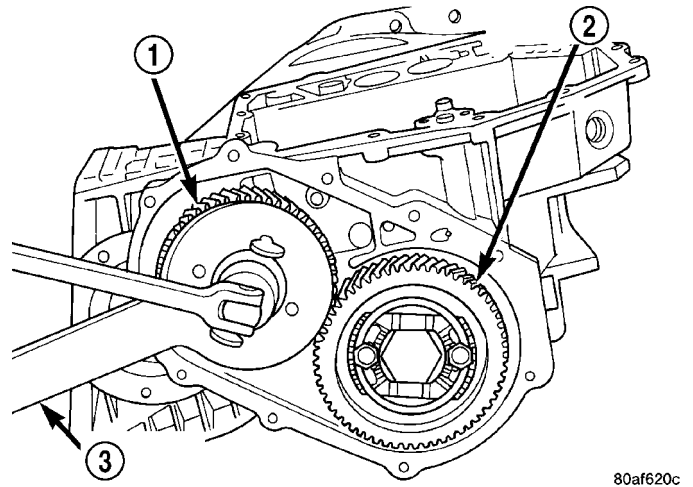
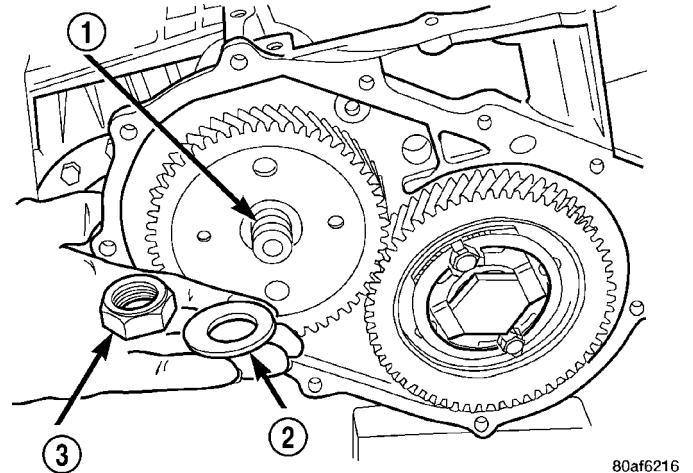

Fig. 52 Remove Transfer Shaft Gear Nut
Fig. 53 Transfer Shaft Gear Nut and Coned Washer
(37) Using Tool 6259, remove transfer shaft gear-to-shaft nut and coned washer (Fig. 52) (Fig. 53).